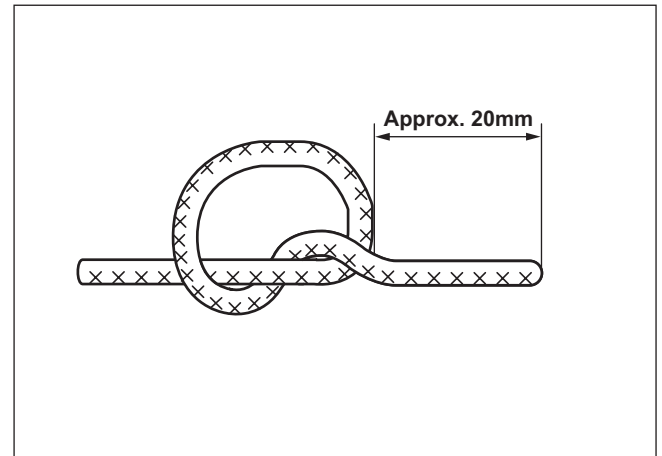

Fig.14-8
-2 Tie a knot in the rope end . (Fig. 14-8)